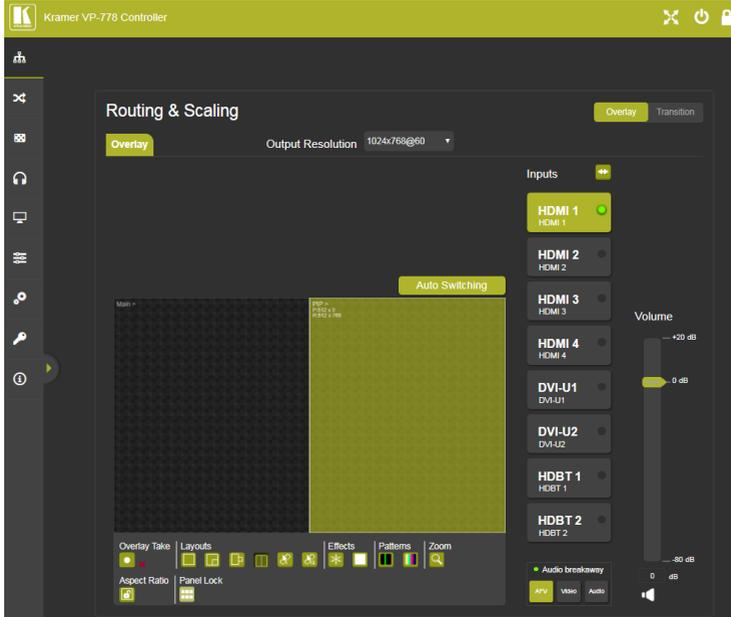

Figure 29: Routing and Scaling Page
2. Select an input from the **Inputs** list. If there is an active signal present on the selected input, the signal indicator lights green (depending on the AFV mode), see HDMI 1 in Figure 29.